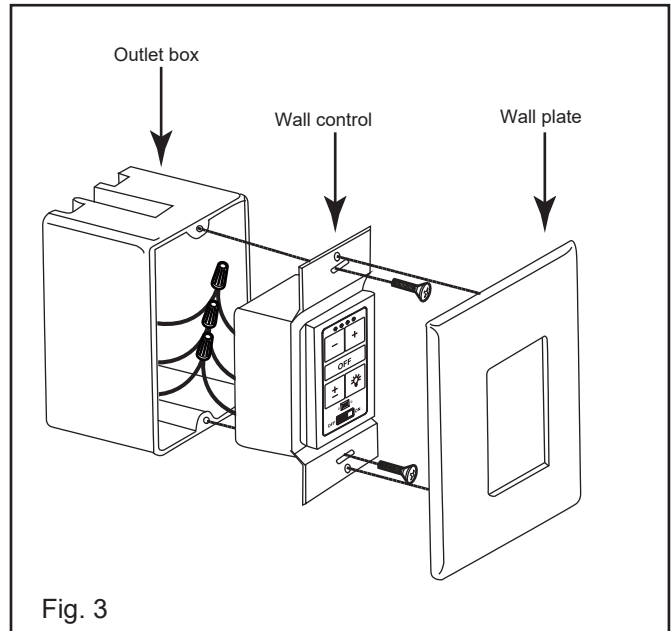

Fig. 3
6. Carefully tuck the wire connections inside the outlet box. Use the screws provided to secure the wall control to the wall outlet box and then snap the wall control until snug. (Fig. 3)